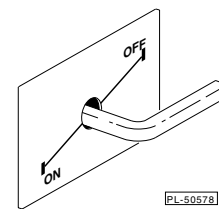

Fig. 6
2. Turn the gas valve extension arm (Fig. 6) (located inside the cabinet door) to the OFF position. Wait 5 minutes for unburned gas to vent.